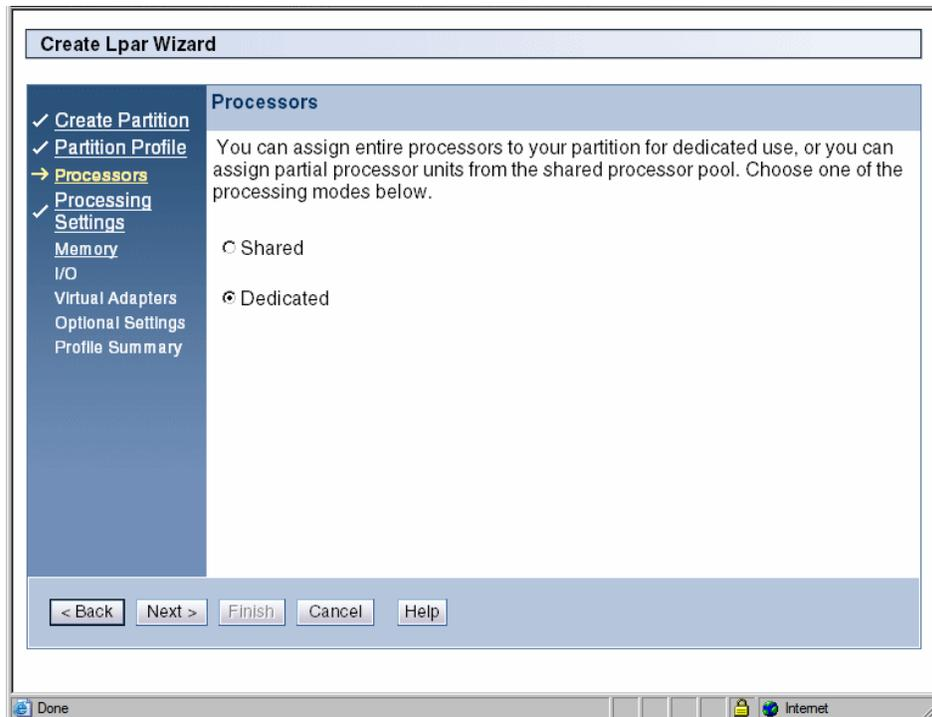

Figure 7-11 Create dedicated processor partition
1. Select **Dedicated** and then select **Next**, as shown in Figure 7-11.